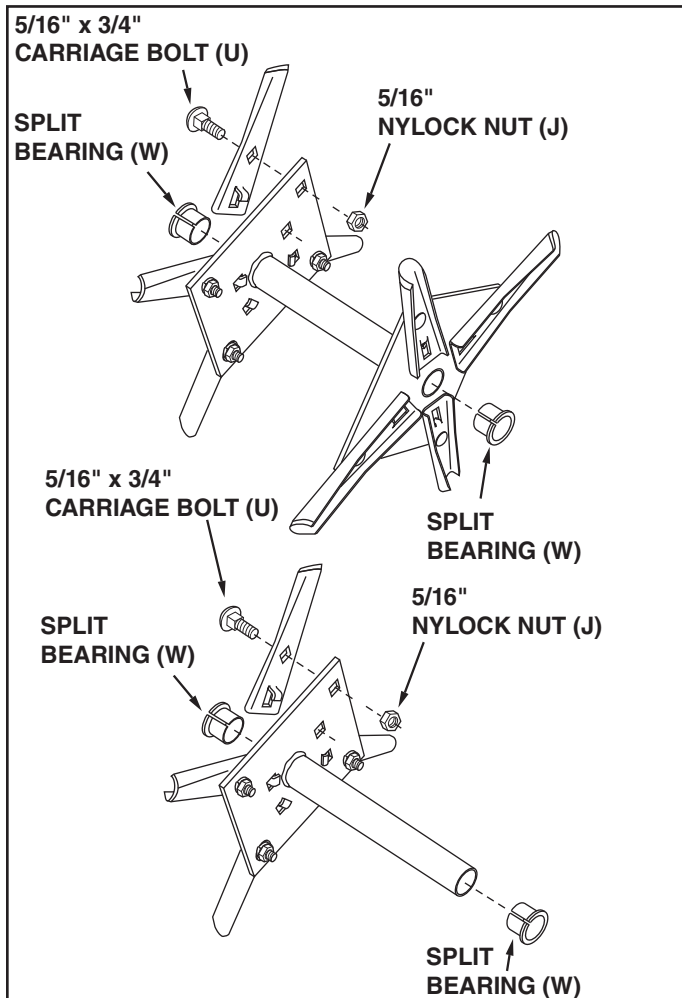

FIGURE 1
- Assemble eight aerator knives on the outside of each double spool assembly. Assemble four aerator knives on the outside of each single spool assembly. Rotate each knife to insert the locking tab into the spool plate, then align the square holes and secure with a 5/16" x 3/4" carriage bolt (U), and a 5/16" nylock nut (J). See figure 1.
- Push split plastic bearings (W) into both ends of all single and double spool assemblies. See figure 1.